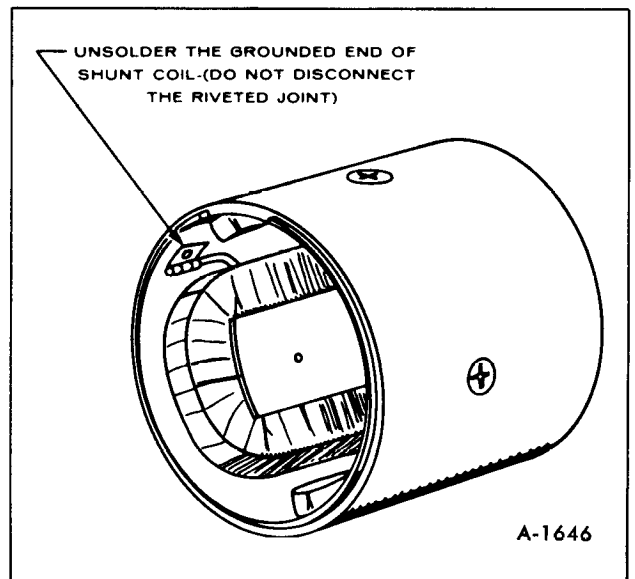

Figure 58-Testing Field Coil
**GROUNDING FIELD COIL:** Use a 120 volt test lamp set for testing for a grounded field coil. First disconnect the grounded end of shunt coil as shown in Figure 58. Then connect one probe of test lamp to yoke and the other probe to field coil connector lead. If lamp lights, field coil is grounded.